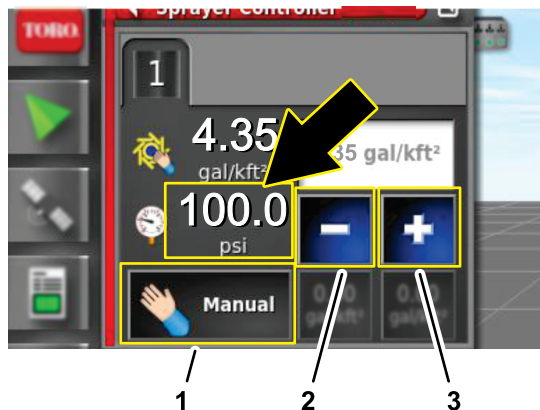

Figure 242
- In the spray rate controller dialog box, press the RATE CONTROL MODE icon until manual mode displays (Figure 242).
- Press the decrement icon (-) or increment icon (+) to adjust the spray system pressure (Figure 242) to 6.9 bar (100 psi).